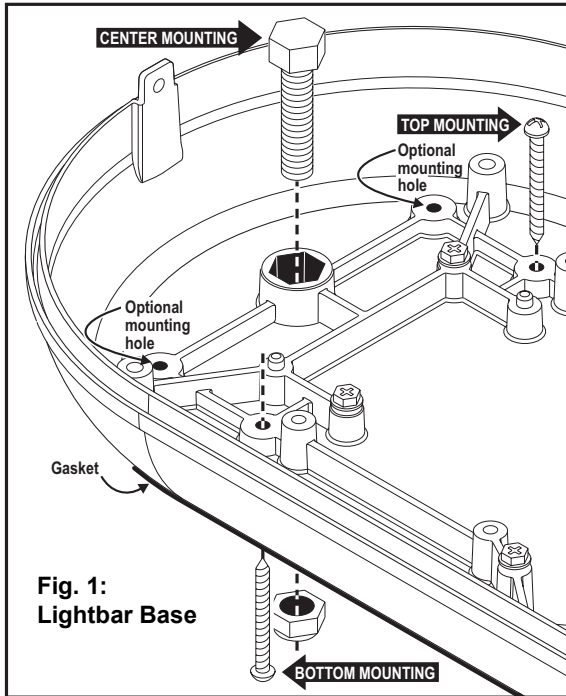

Fig. 1:
2. With a 3/16" drill bit, drill out the 4 mounting bosses in the base for clearance holes for #8 sheet metal screws (Fig. 1).